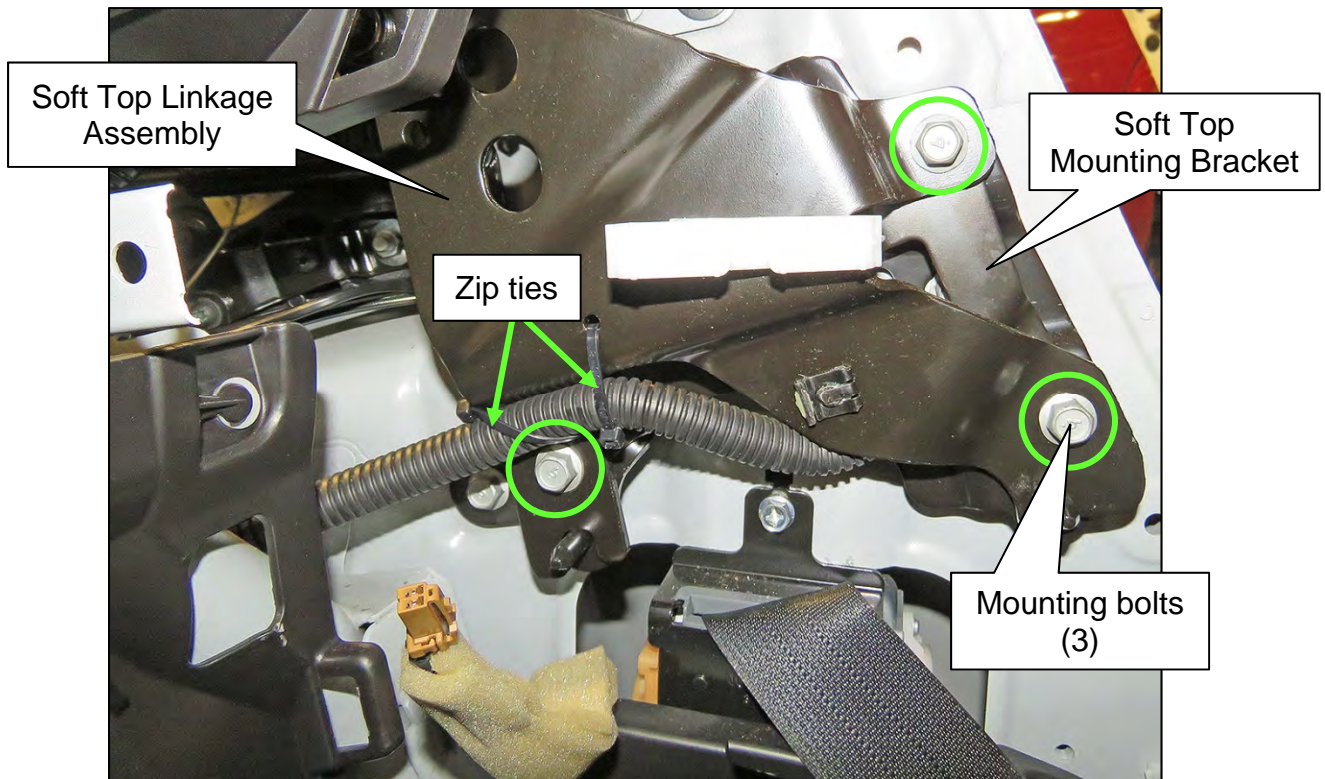

Figure 211
227. Remove the two (2) zip ties, shown in Figure 211, from both the driver and passenger side Soft Top Linkage Assemblies.
228. Remove the three (3) mounting bolts, shown in Figure 211, that attach the Soft Top Linkage Assembly to the Soft Top Mounting Bracket from both the driver and passenger sides.